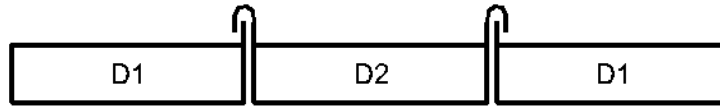

FIG. 3
- A. Position the “D2” (roof) middle panel (Fig. 3) between the “D1” (roof) end panels and set it in place. On the inside, place Inner Roof Connection Brackets under the “D1-D2” wooden rafter panel connections. Fasten the Inner Roof Connection Brackets into place (Fig. 1E) using hex headed screws.